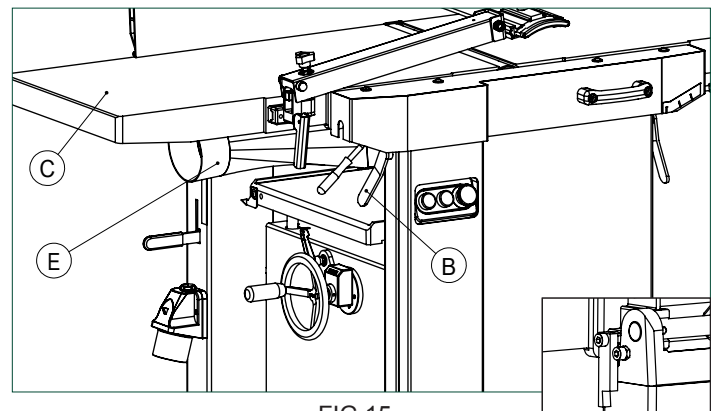

FIG.15
1. Turn clamping lever (B, Fig.15) outward and swing the outfeed table (C, Fig.15) together with the fence to the left. Make sure the outfeed table stopper (D, Fig.15) is engaged (When close the outfeed table, please don't forget the release the stopper first).
2. Turn the dust chute (E, Fig.15) with installed suction connector to the machine .